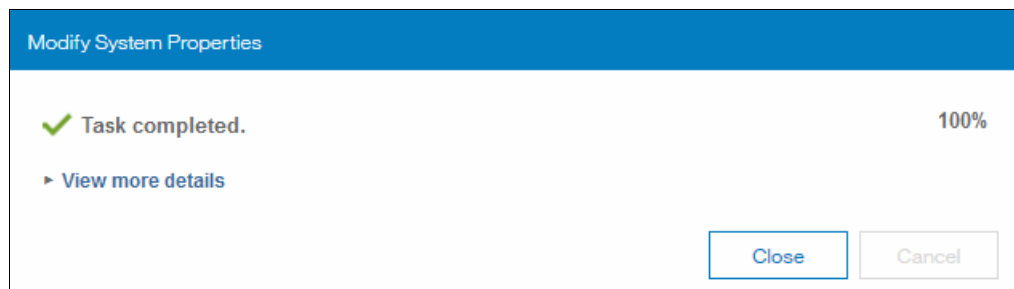

Figure 6-80 Modify system properties status pane
3. The Modify System Properties status pane is displayed (Figure 6-80).